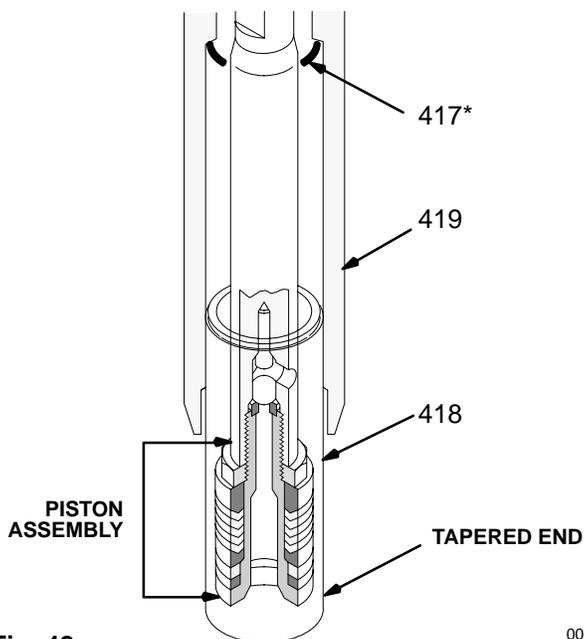

Fig. 42
7. Put a new o-ring (417\*) firmly in the cylinder groove. See Fig. 42.
8. One at a time stack the male gland (408\*), alternate the packings (413\*, 407\*), and then install the female gland (409\*), into the top of the cylinder (419). See Fig. 42.
9. Install the packing nut (416) and plug (405), but leave loose for now. See Fig. 42.
**NOTE:** The tapered end of the sleeve is the bottom of it. Do not install it upside down. See Fig. 42.
And then slide the sleeve/piston rod assembly **INTO THE BOTTOM OF THE CYLINDER**. This procedure helps prevent damaging the packings during reassembly. See Fig. 42.
11. Screw down the cylinder locknut (27) until it is finger tight at the bottom of the external cylinder threads.
12. Put the flats of the intake valve (423) in a vise. Install a new o-ring (401\*) and screw the intake valve onto the pump cylinder. See Fig. 42. Torque the valve to 146 N.m.